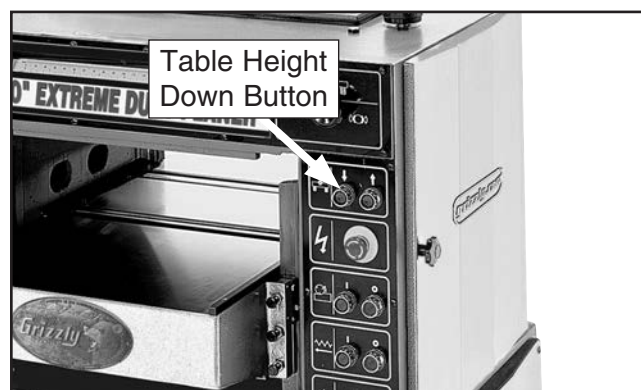

Figure 4. Location of table height down button.
4. Verify proper phase polarity by checking that table moves *down* when you push table height down button ↓ (see **Figure 4**). If it does, proceed to **Step 5**.